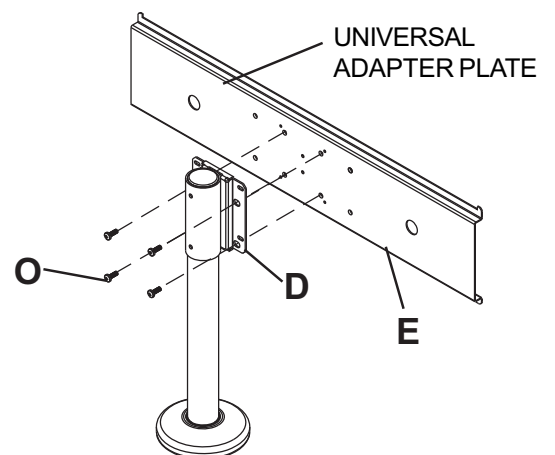

fig. 8.2
For installing screens with Universal Adapter Plate: Using the penta-pin driver (Q), attach universal adapter plate (E) to adapter plate (D) using four M10 x 15 mm penta-pin screws (O) as shown in figure 8.2.